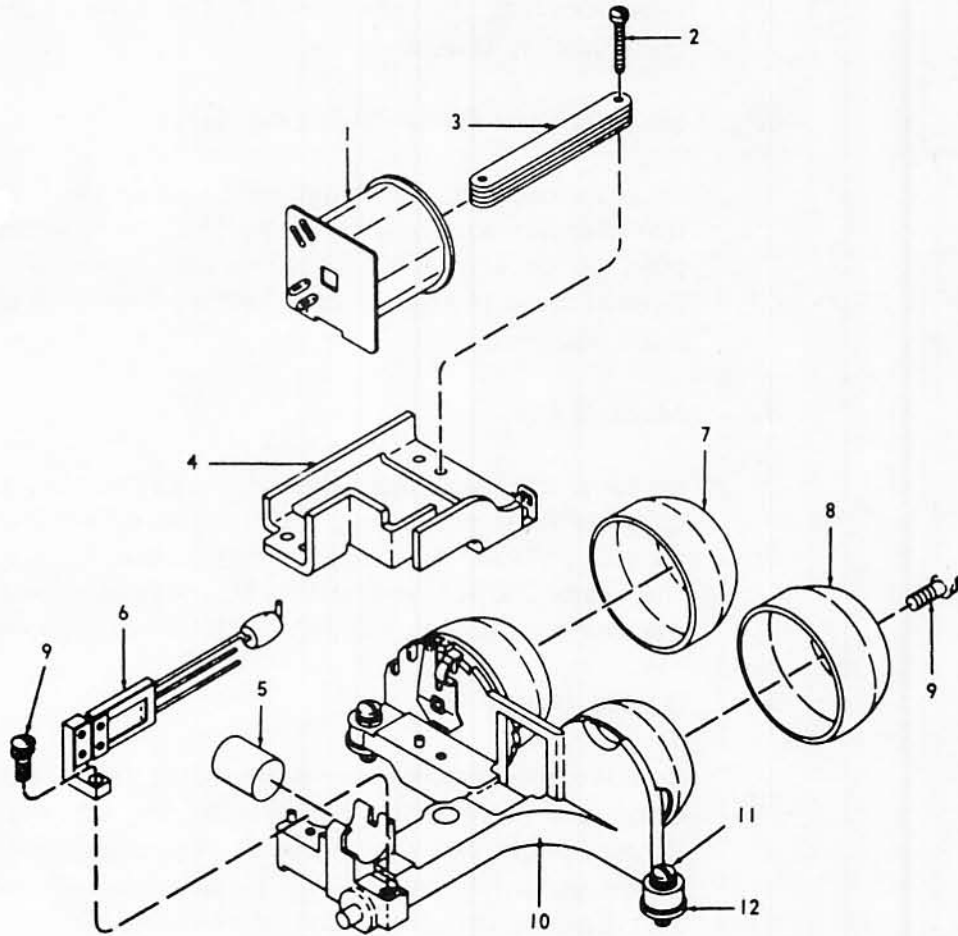

FIGURE 12
1. Biased Ringer [Code 130(BA) 470] (See Fig.12, Page 38.)
(See Figure 12)